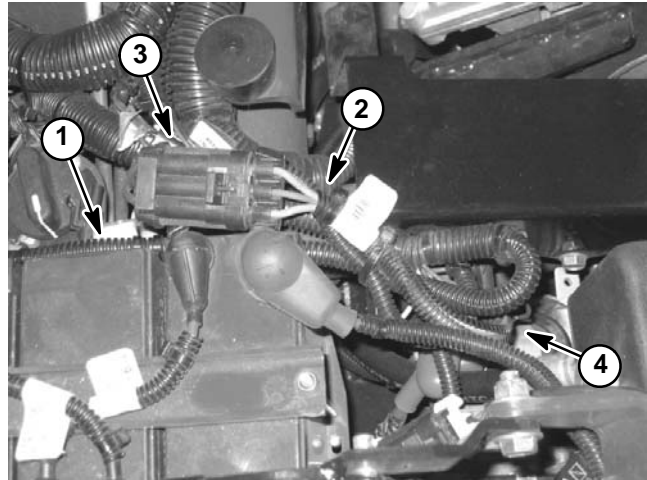

Figure 50
Greensmaster 3320 machines (gasoline engine) use only two (2) of the harness fusible links. The fusible link harness on Greensmaster 3320 machines is connected to the starter solenoid (Fig. 50).